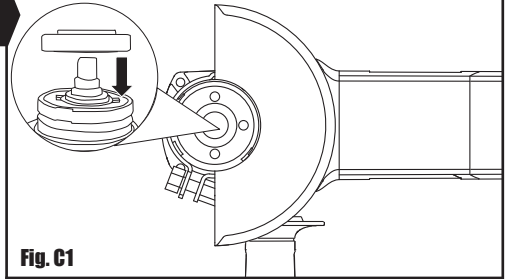

Fig. C1
Put the inner flange (9) onto the tool spindle. Ensure it is located on the two flats of spindle (See Fig. C1).